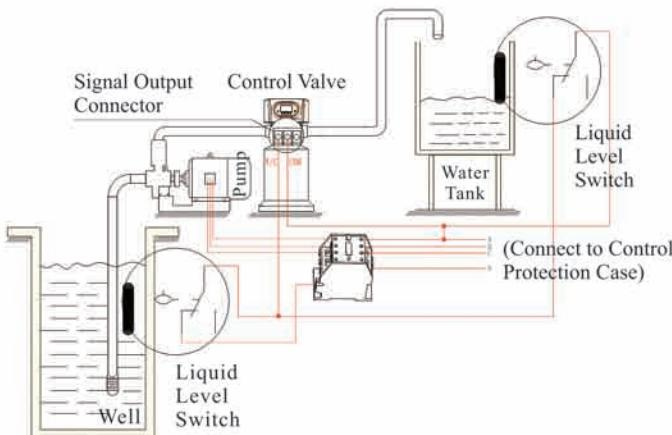

Figure 3-6 Wiring of Liquid Level Switch in Water Tank Controls Inlet Pump
3)Liquid Level Switch in Water Tank Controls Inlet pump (Three-phase motor, Figure 3-6) (Set as b-01)